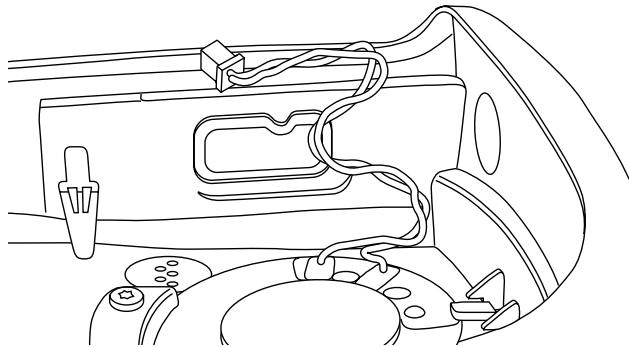

Figure 2-11. Bend the Wires into an "M" Shape
- a. Form the wires into an “M” shape so it can collapse on itself like an accordion with all of the wire up in the top corner of the radio away from the shields. Place three bends in the wires spaced approximately 1cm apart to give the wire an “M” shape (Figure 2-11).
- b. Bend the wires up from the speaker so the wires are positioned toward the top of the radio (Figure 2-11).